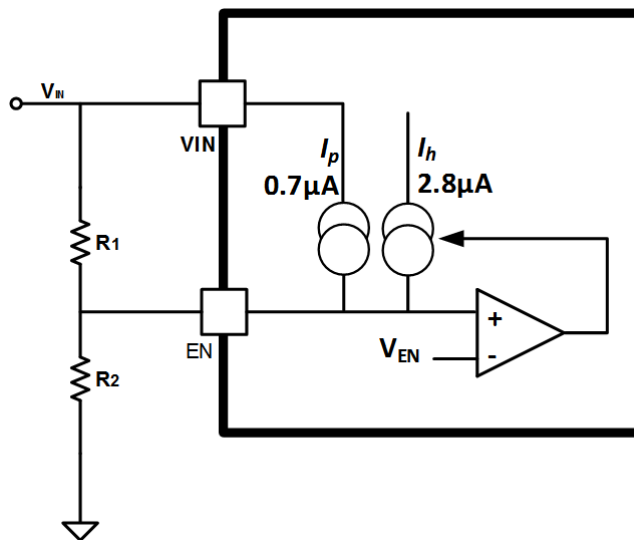

Fig. 28 Input Under-Voltage Lockout Setup
Under-voltage lockout can be used to prevent the output from starting until the input voltage is within its normal range. For input under voltage lockout (UVLO) adjustment, use the EN pin as shown in Fig. 28 to set the UVLO level by using two external resistors. Once the EN pin voltage exceeds 1.3V, an additional 2.8μA of current is added to provide input voltage hysteresis. Resistor R_{EN1} and R_{EN2} can be calculated using Equations (4) and (5) based on the required startup voltage and shutdown voltage.